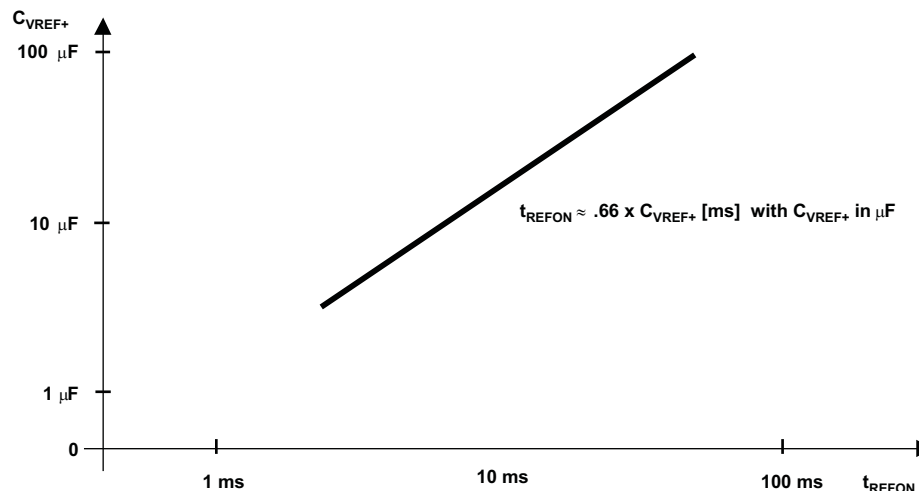

Figure 5-18. Typical Settling Time of Internal Reference  $t_{REFON}$  vs External Capacitor on VREF+
| t REFON Settle time of internal reference voltage (see Figure 5-18) (2) | I VREF+ = 0.5 mA, C VREF+ = 10 μF,V REF+ = 1.5 V, V AVCC = 2.2 V                         |                 |      |     | 17   | ms     |